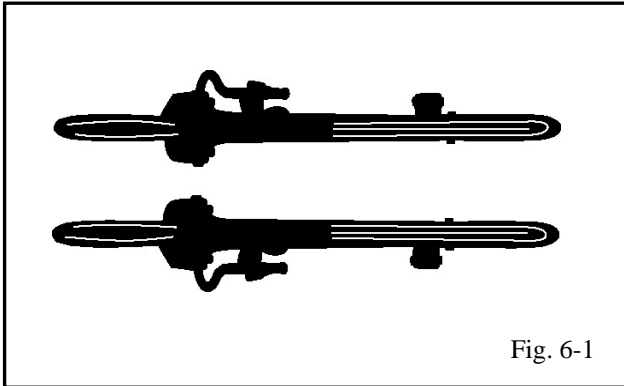

Fig. 6-1
- (a) To be able to attach more than two bike racks on the roof, the frame holder tube and the attachments have to switch sides. (Fig. 6-1)